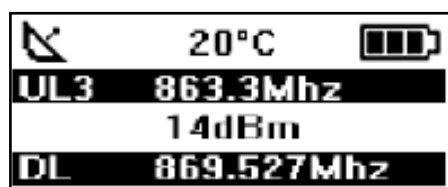

Figure 9 : Downlink
- 1 reception windows after a 20 seconds times break (Figure 9)